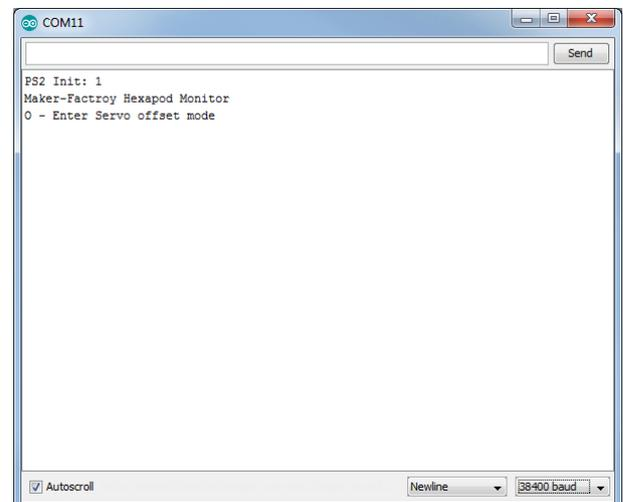

Figure 72
- Connect the terminal to the robot. The robot appears in the terminal window, as shown in Figure 72. Please note: The Arduino terminal connects immediately after opening!